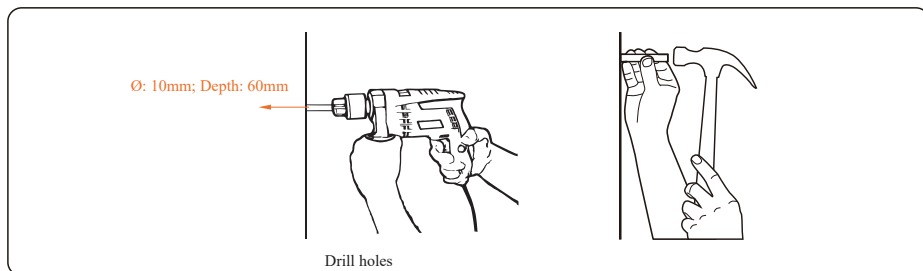

Figure 4.12 Punch holes and install expansion (unit: mm)
Step 5 Align the rear panel with the holes, insert expansion bolts into the holes through the rear panel, and tighten the expansion bolts to a torque wrench (torque $2.5 \text{ N}\cdot\text{m}$), as shown in Figure 4.12.